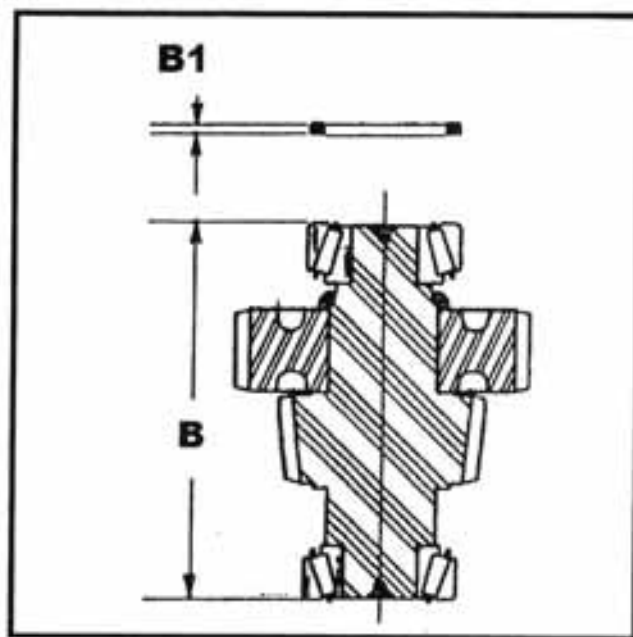

Figure 1-6. Intermediate shaft with bearing
(137 & 142) on the cones and clamp with moderate pressure to assure proper bearing to roller seating (figure 1-6).
6. Measure the distance across the two cups with a seven (7) inch micrometer. **This is measurement "B"** as illustrated in figure 1-6.
8. **Add .009 inch (.007-.010inch)** to the measurement determined in step 7. **This will be the shim thickness needed to achieve proper intermediate shaft pre-load (B1 in figure 1-6).**
9. Place the shims (138) determined in step